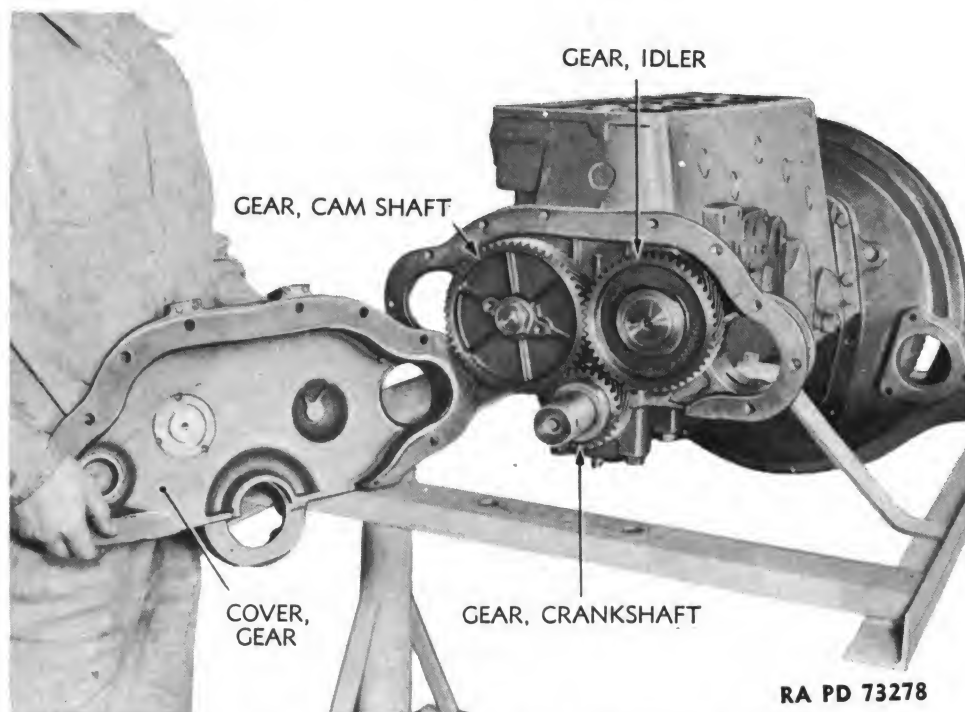

Figure 47 — Gear Cover Removed
(14) Loosen set screw holding drift pin through cranking dog and shaft. Remove drift pin and cranking dog.
(15) Take out cap screws attaching gear cover to engine block (fig. 46), and remove cover (figs. 47 and 48).
(16) Pull off oil retainer ring and gasket from the crankshaft.